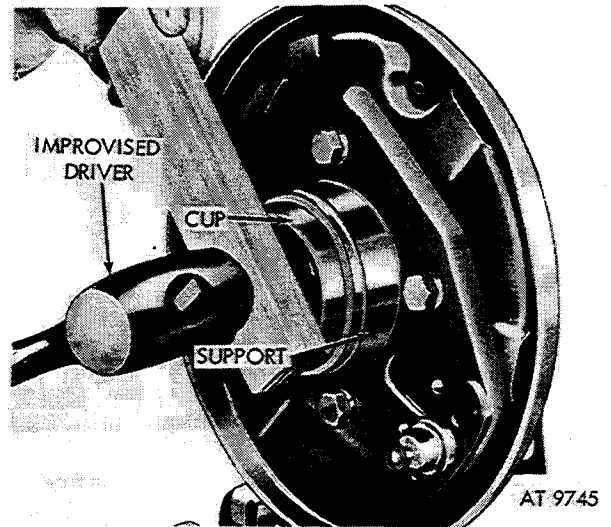
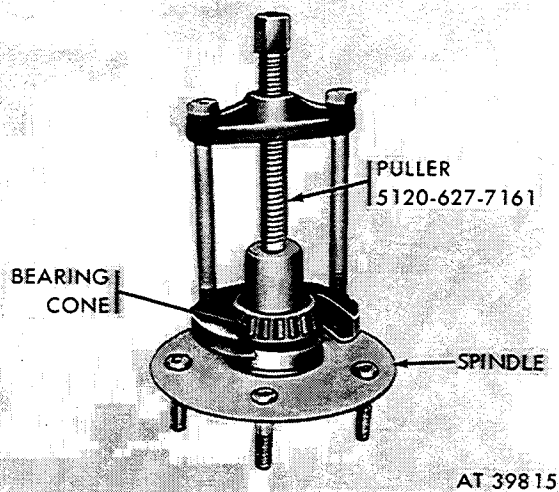
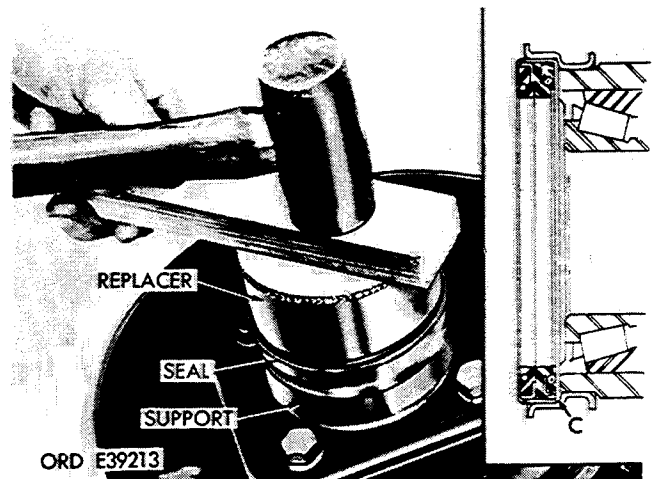

Figure 2-320. Bearing cup in position using improvised driver.
Figure 2-319. Remove outer bearing using puller 5120-627-7161.
Figure 2-321. Install seal using replacer 5120-795-0152.
(3) Remove outer bearing cone from spindle using puller 5120-627-7161 (fig. 2-319).
*b. Installation.* Pack lips of seal with grease (GAA), and coat sealing surface of support with sealing compound (FSN 8030-656-1426). Install wheel bearing outer seal, cup, and bearing as given in operations (1) through (5) below.
(1) Start bearing cup in support bore and seat in position with improvised driver (fig. 2-320).
(2) Coat entire inside of support bearing bore with one-sixteenth layer of grease (GAA). To prevent rust, coat inside of bore between the bearings with one-sixteenth inch layer of grease (GAA).
(3) Install seal on support using replacer special tool 5120-795-0152 (fig. 2-321).
(5) Seat seal in support using replacer 5120-795-0152 (fig. 2-321).
(6) Install support (para 2-140), drive flange (para 2-139), and spindle (para 2-138).